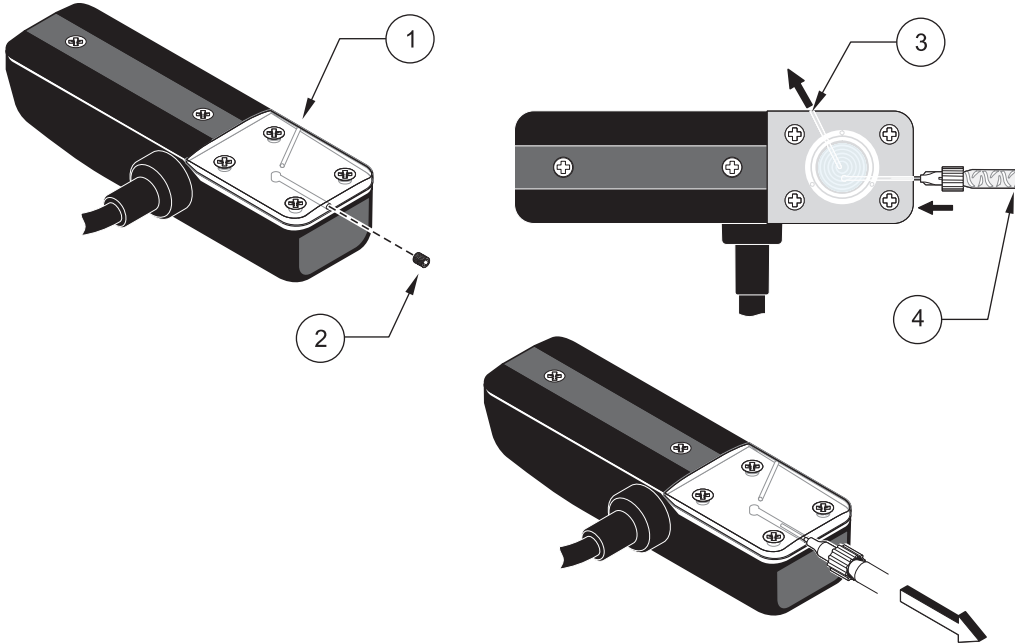

Figure 22 Oil Replenishment
7. Slowly insert the syringe tip into the set screw hole and dispense the oil (Figure 22). While dispensing the oil, hold the probe at an angle to allow the air to be pushed out the side port (Figure 22). Continue to dispense the oil until all the air bubbles are removed.